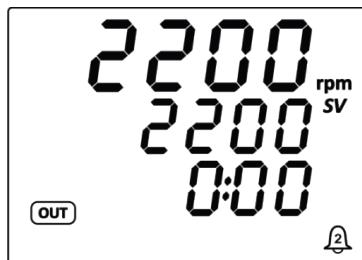

Figure 9 - Motor overheat
- 8.4.3. If during stirring, an audible signal sounds and the display shows the indicator (Figure 9), this is the warning about motor overheating. Overheat, for example, can be caused by lengthy continuous operation at high load. In such case it is necessary to turn the device off and let the motor cool off.